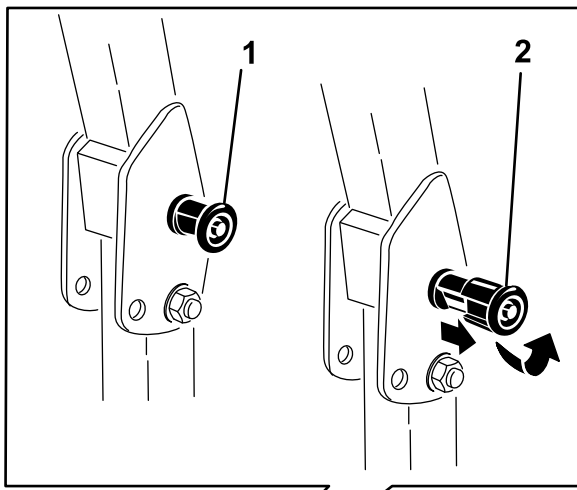

Figure 8
2. Pull both knobs out and rotate them 90° so that they are not engaged (Figure 8).
3. Lower the roll bar to the down position (Figure 8).
- To raise the roll bar, raise the roll bar to the operate position, rotate the knobs so that they move partially into the grooves (Figure 8).
- Raise the roll bar to the full upright position while pushing on the upper roll bar and the pins will snap into position when the holes align with the pins (Figure 8). Push on the roll bar and ensure that both pins are engaged.